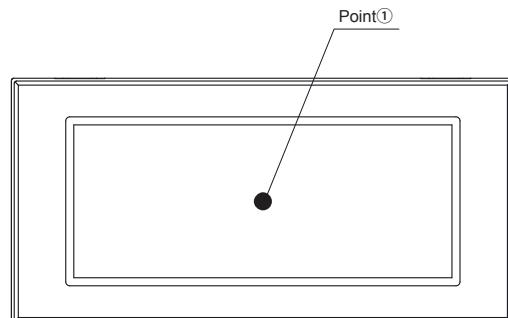

Fig.8.4 Temperature measurement point (-N model)
- Please refer to Fig 8.4 for the position of Point①.